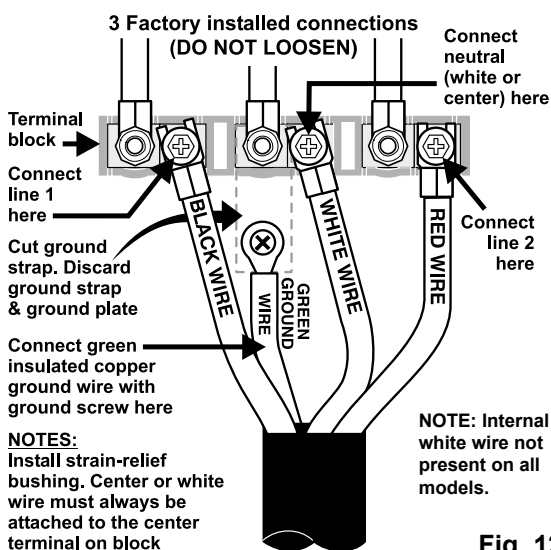

Fig. 12
4A. POWER CORD CONNECTIONS (4-Wire Connection Instructions - Refer to Fig.12)
4. Connect the ground wire (Green) lead with the eyelet to the frame of the appliance with the ground screw using the same hole in the frame where the ground screw was originally installed (See Fig. 12).